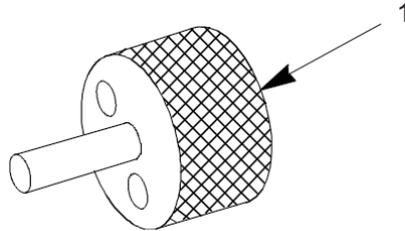

Figure 20. Elevation Knob.
29. Visually inspect elevation knob assembly (Figure 20, Item 1) for bent or broken shaft and replace if damaged.